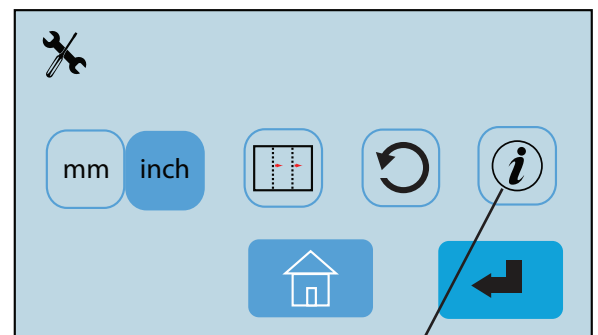

Fig. 35
2. From the Operator Tools screen press the Software Information icon  (Fig. 35).